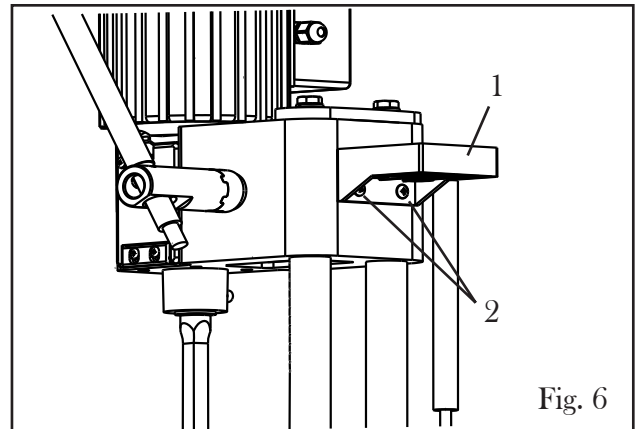

Fig. 6
STEP 6: INSTALL THE TOOL & CHISEL HOLDER (Fig. 6 & 7)
Assemble the tool holder (Fig. 6 - 1) onto the back of the mortiser using two screws and two flat washers (Fig. 6 - 2). Tighten using the included hex wrench.